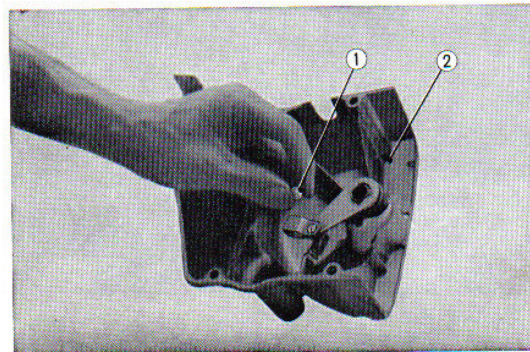

Fig. 3.11 Steel ball replacement
- e. Make sure that the steel ball has been assembled in the clutch lifter thread before installing the drive chain cover. (Refer to Fig. 3.11).